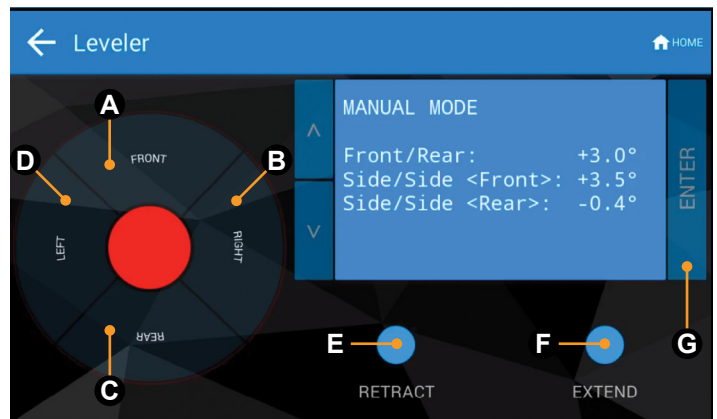

Fig.35
2. Front and rear jacks can be operated in Manual Mode. The Power Tongue Jack cannot be operated in Manual Mode (Fig.35).